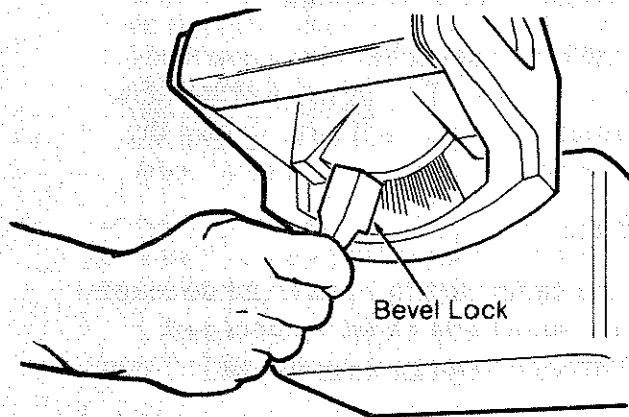

Fig. 19
8. Slide the *bevel encoder* to the top center position so it will fit into the notch on the *motor support bracket*. (Figure 19)